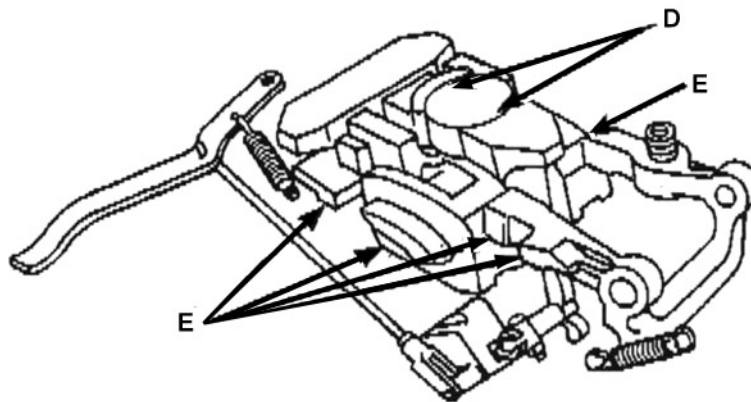

Figure 2-38. Locking mechanism lubrication points.
- Jaw Surface—Directly apply a light coat of wheel grease to these areas (fig. 2-38, Locations D & E). Too much can interfere with fifth wheel operation.